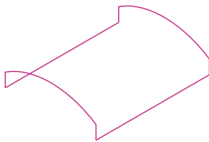

Fig. 17.28 Example – Edgesurf – adding lines joining the plines
7. With the **Line** tool, draw lines between the ends of the two plines using the **endpoint** osnap (Fig. 17.28). Note that if polylines are drawn they will not be accurate at this stage.